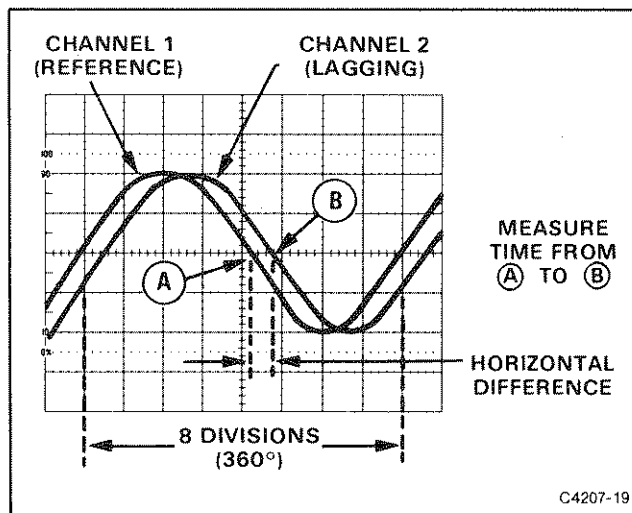
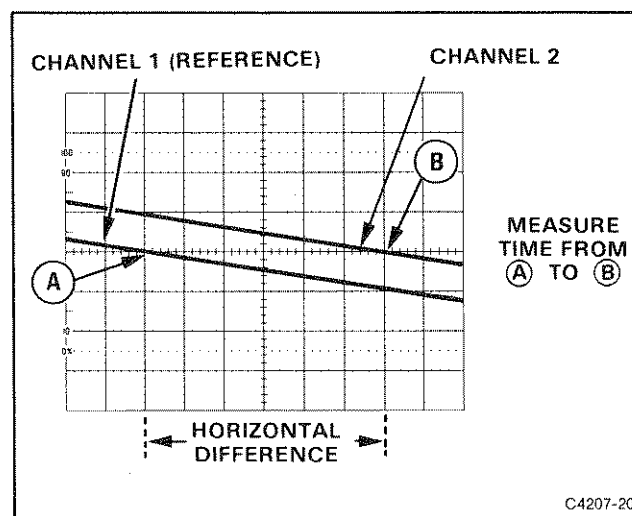

Figure 4-8. Phase difference.
Figure 4-9. High-resolution phase difference.
9. Position the displays and adjust the SEC/DIV Variable control so that one reference-signal cycle occupies exactly 8 horizontal graticule divisions at the 50% rise-time points (see Figure 4-8). Each division of the graticule now represents 45° of the cycle ($360^\circ \div 8$ divisions), and the horizontal graticule calibration can be stated as 45° per division.
Example: The horizontal difference is 0.6 division with a graticule calibration of 45° per division as shown in Figure 4-8.
EXAMPLE: If the sweep speed were increased 10 times with the magnifier (X10 Magnifier button out), the magnified horizontal graticule calibration would be 45°/division divided by 10 (or 4.5°/division). Figure 4-9 shows the same signals illustrated in Figure 4-8, but magnifying the displays results in a horizontal difference of 6 divisions between the two signals.